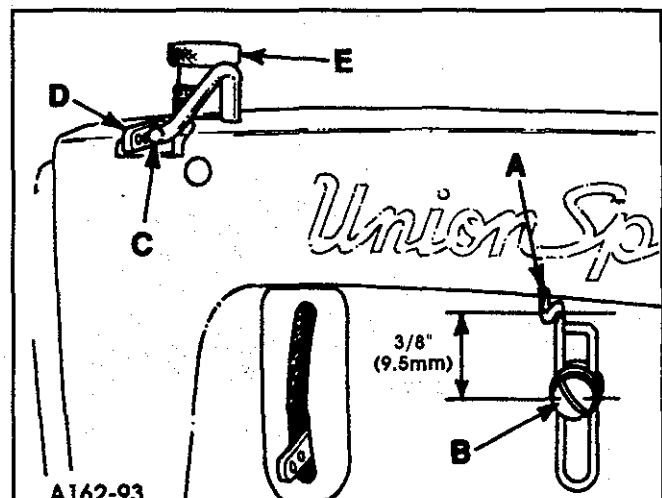

FIG. 24
Set the needle thread frame eyelet (A, Fig. 24) $3/8"$ (9.5mm) above the center of mounting screw (B). The top of take-up wire (C) should be even with the top holes in the needle thread eyelet (D) with the hole at bottom of stroke. For less loop lower this setting, for more loop increase setting.
Regulate the presser spring regulating screw (E, Fig. 24) so that it exerts only enough pressure on the presser foot to feed the work uniformly when a slight tension is placed on the fabric. Turning it clockwise increases the pressure, counterclockwise acts the reverse.